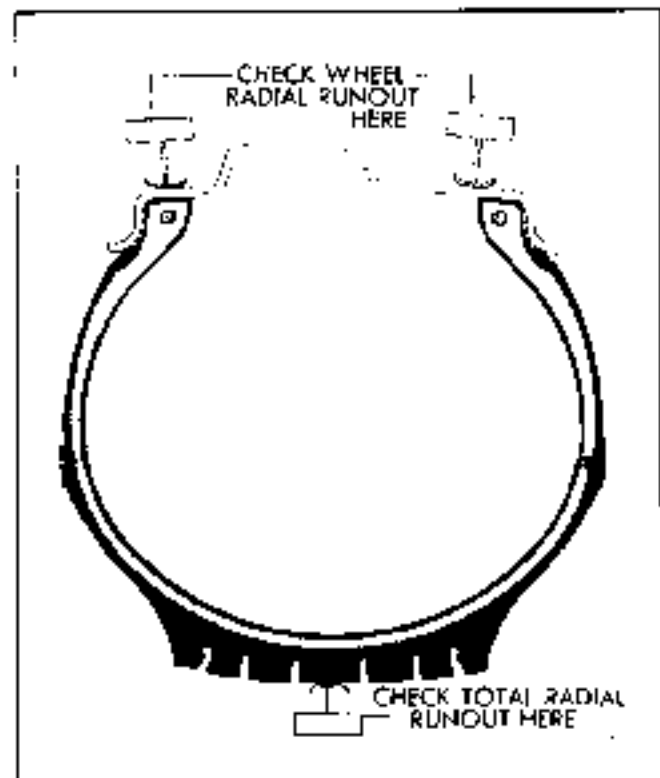

Fig. 10-2 Radial Runout Inspector
3. Attach a dial indicator to the car body or stationary support. With indicator against tire (Fig. 10-2), slowly rotate wheel and check for total radial run-out of wheel and tire. Maximum allowable total radial run-out is .092". If total radial run-out exceeds .092" then re-index tire to wheel as noted below and recheck run-out of assembly. If still over .092" check radial run-out of wheel only.